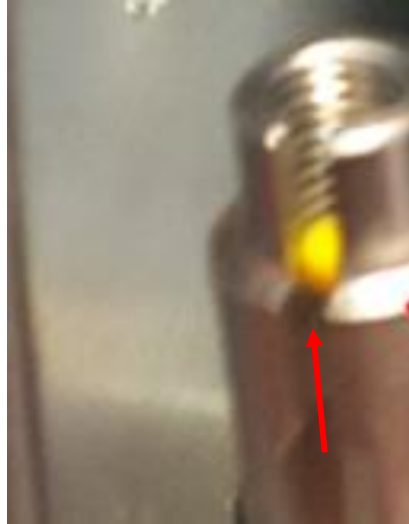

Figure 20
- 3.6. Remove Reading Cell to Needle Piston Tubing from Needle Tube by lifting tube up and away from slot of the piston. Figure 20.